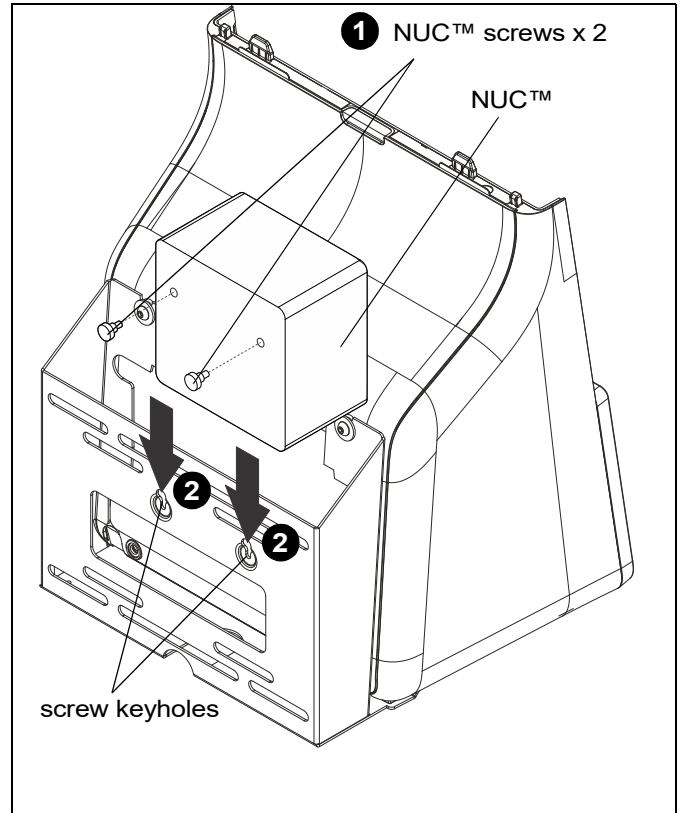

Figure 14
1. Install two NUC™ screws (not included) into back of NUC™ (not included). (See Figure 14)
2. Hang NUC™ screws into keyholes on back of kiosk bracket. (See Figure 14)